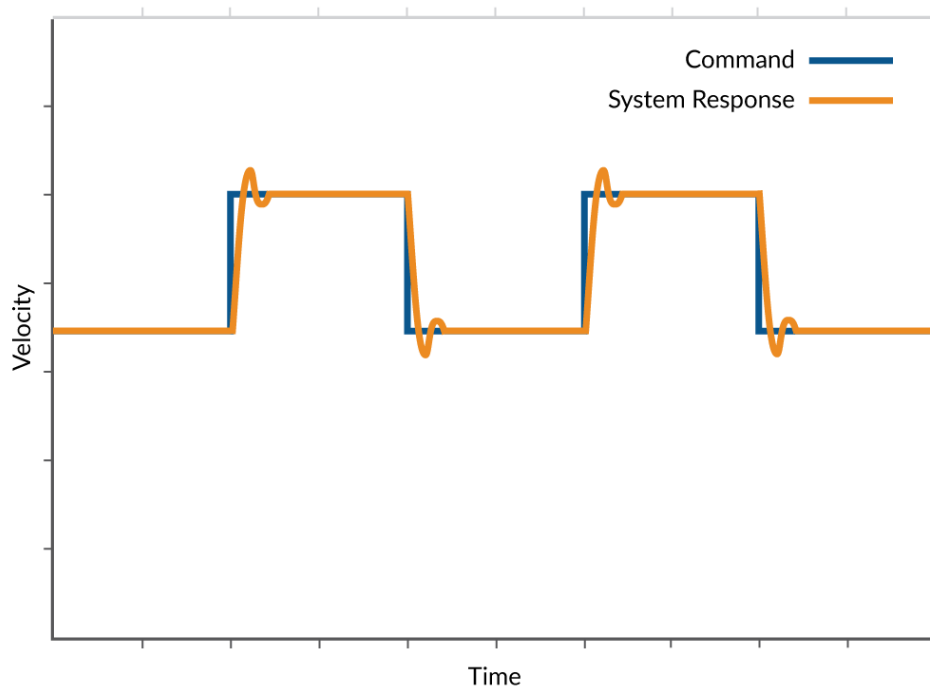

Figure 4: Zone-based Tuning
- Leaving the P and I terms at zero, increase D until the actual velocity profile graph closely matches the desired velocity profile. Do not worry about whether the destination positions match, you are only examining differences in velocity (velocity error) at this stage. Figure 4 shows a representative well-tuned velocity versus time.